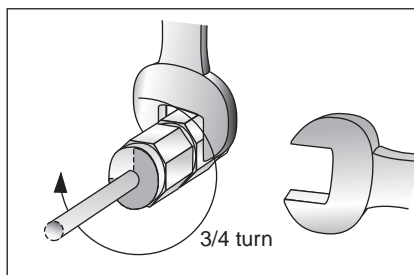

Figure 3-3. Tightening Swagelok Fittings
7. While holding the inlet body tightly with a backup wrench, tighten the nut about a $3/4$ turn past finger-tight, as shown in Figure 3-3.